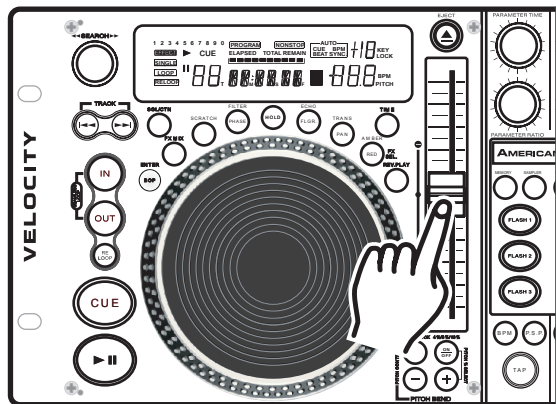

Figure 43
The (+) *PITCH BEND BUTTON* (26) will increase track playback speed and the (-) *PITCH BEND BUTTON* (25) will decrease track playback speed. The extent to which the speed changes is proportionate to the amount of time the button is pressed. For example, if the (+) *PITCH BEND BUTTON* (26) is held down continuously as in figure 43, the disc speed will increase and will continue to increase until it reaches a maximum of 100% speed gain. When you release the (+) *PITCH BEND BUTTON* (26) the disc speed will automatically return to its previous set speed.